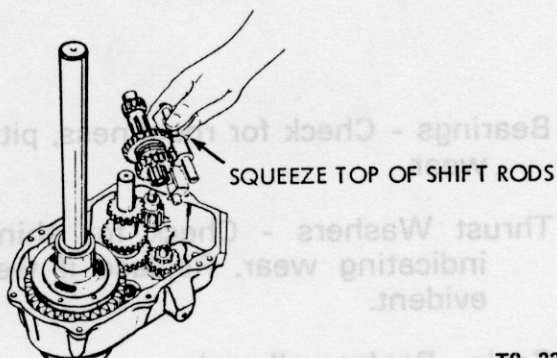

Figure 32 - Removing Shifting Assembly
7. Remove the shifting assembly (Figure 32) by squeezing the ends of the shift rods together. Lift out the assembly as a unit. Prior to removal, note the position of the shifter fork and annular grooves to facilitate reinstallation of the assembly.